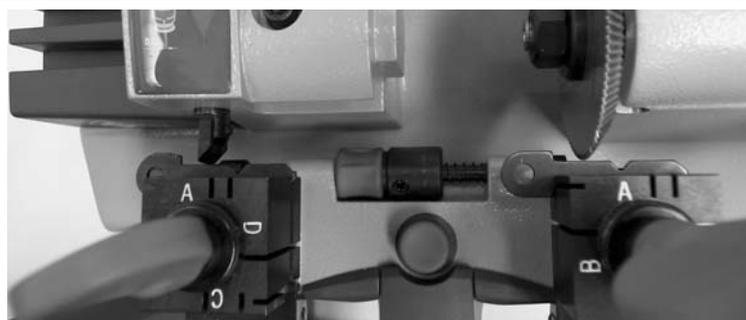

Fig. 11
- 5) Take the flat part of the key into contact with the cutting tool and tracer point (fig.11).